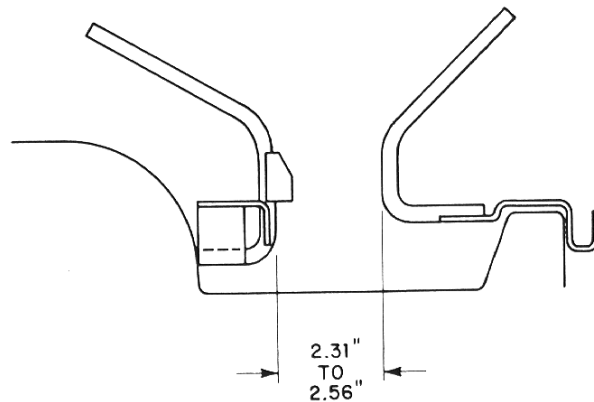

Fig. 28. Arc horn adjustment
9. Adjust the gap across the arc horns to the dimension shown in Fig. 28.